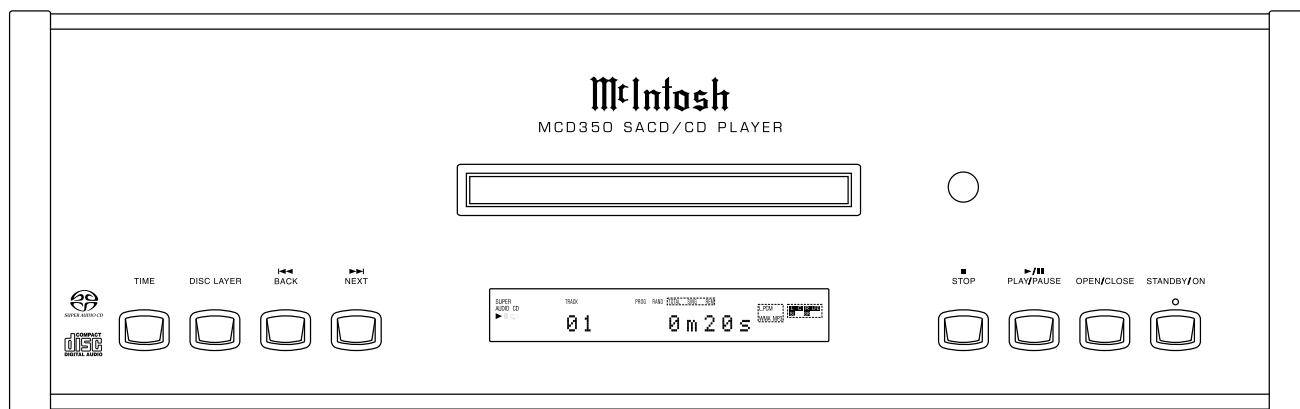

Figure 2
This allows repeating a Track, Disc, Program Mode or Random Play Mode on a continuous basis. Refer to figures 2 and 25.
1. Press the RANDOM Push-button twice to access the Program Mode. Refer to figures 2, 25 and 28.